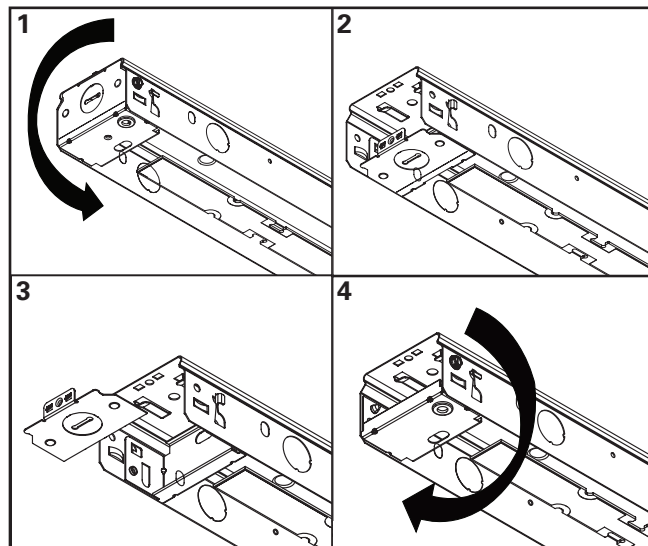

Figure 4.
2. Rotate end bracket and bend end bracket at the seam to create a passageway for wiring. (Figure 4)